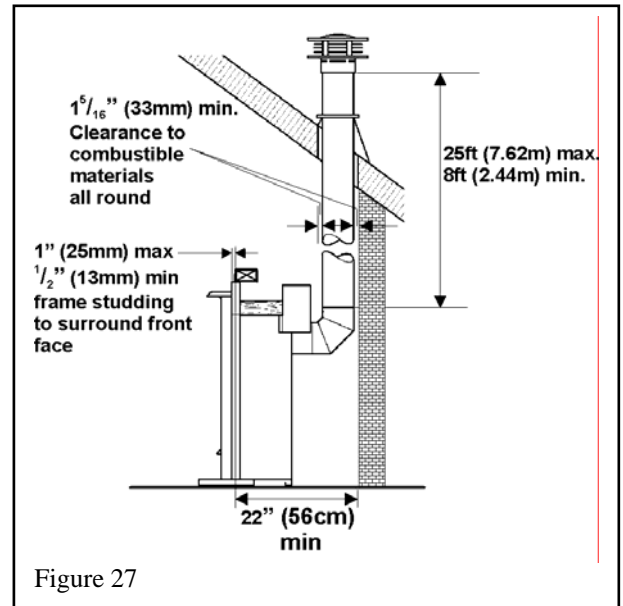

Figure 27
5.2.7. Rear vent connection, vertical vent rise with through the roof termination (Fig.27)